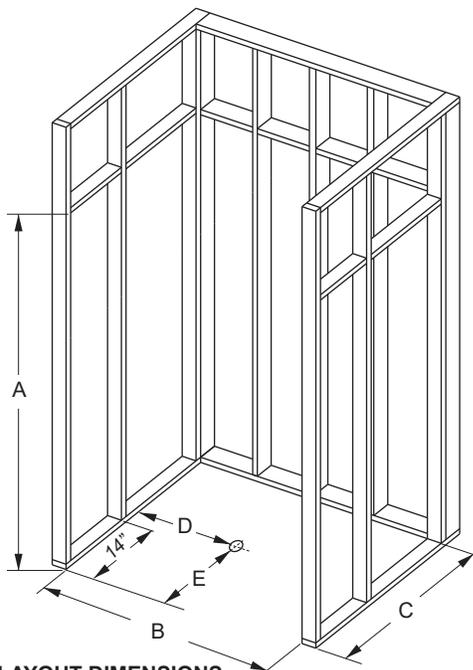
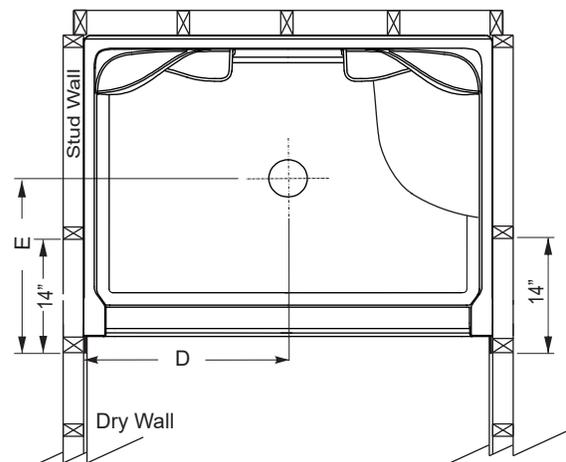

FIGURE 1 - LAYOUT DIMENSIONS
FIGURE 2 -TOP VIEW OF THE SHOWER STALL IN THE ALCOVE
- The Shower Stall is to fit into framed alcove as shown in Figure 1 and Figure 2.
• Framing: Inside dimension of the studded alcove are to be as specified in Figure 1.
- Build solid framing to the dimensions in Figure 1.
- The drain location on the shower is shown in figure 1.